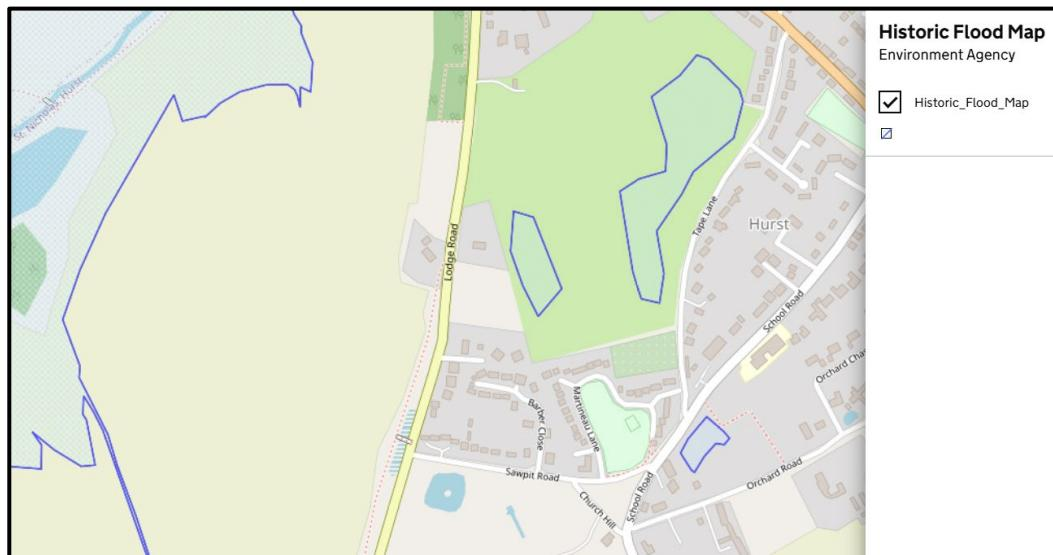

Figure 2: Historic Flooding (Source: Environment Agency)
1.8 There have been no recorded instances of historic flooding at the site, see Figure 2.